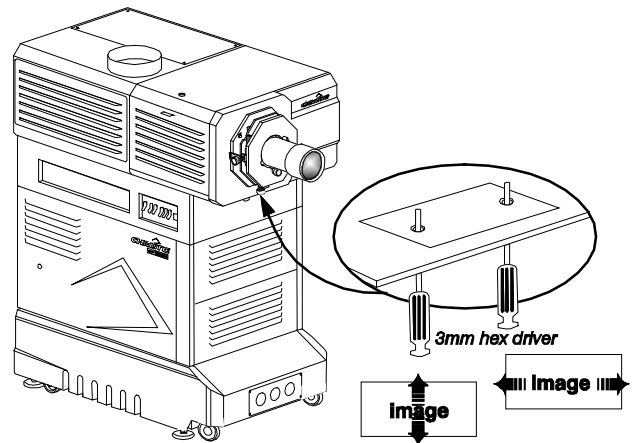

Figure 2.42. Fold Mirror Adjustment
8. Adjust the vertical boresight bolt (Figure 2.42) using one allen key to hold the bottom hex screw and another to turn the adjustment bolt above it. Adjust as necessary to direct or “aim” the lens toward the edge of the image which focused too close to the lens. When both top and bottom appear equally blurry, re-focus at the top of the screen.